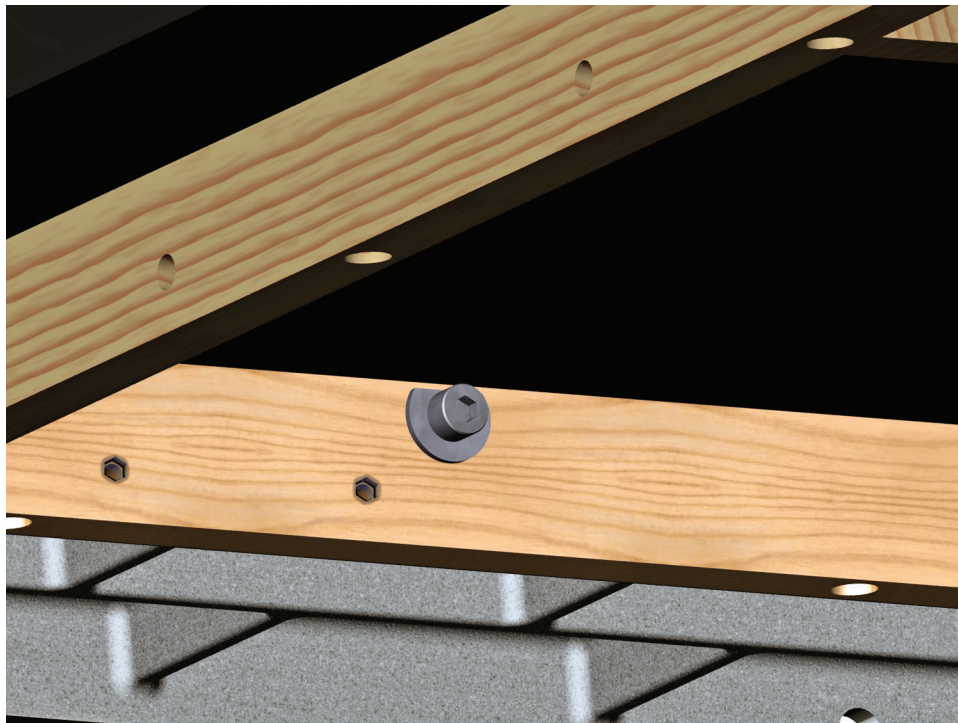

Fig. 11
Next, install the M8 x 45 socket head bolt (26) and D-washer (27) through the hole in the center of the left side of the extension table. The bolt should also extend through the center hole in the right extension wing. Make sure the flat edge of the D-washer is facing upward. See Fig. 11. Install an M8 x 23 x 2 washer (14), an M8 lock washer (15), and an M8 x 1.25 hex nut (16) on the end of the bolt and hand tighten.